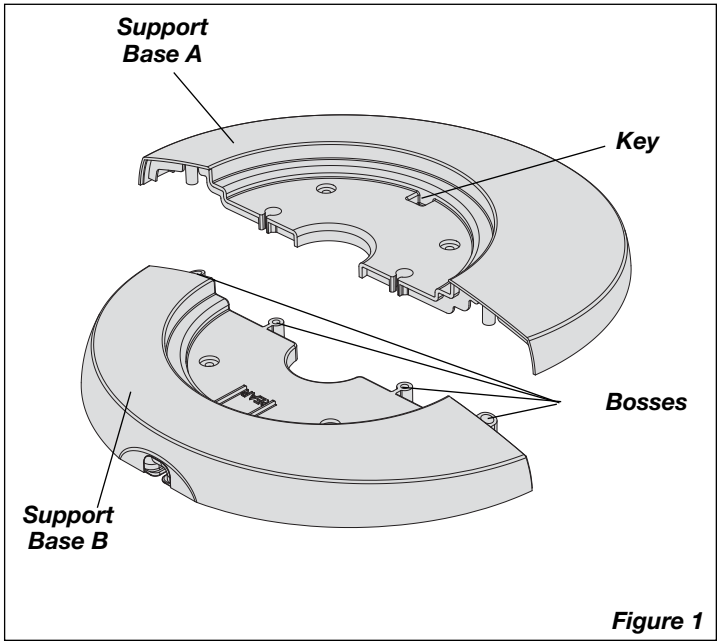
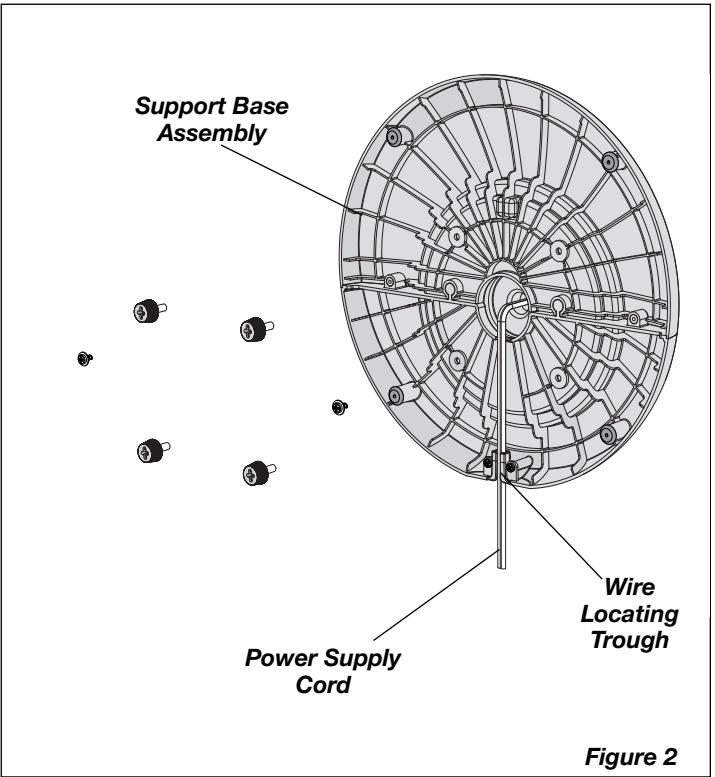

Figure 1
Figure 2
2. Assemble the Support Base Halves by interlocking the Bosses on Support Base A into the Boss Holes on Support Base B. Thread the Power Supply Cord through the large hole in the center of the Support Base Assembly. (Figure 1)
3. Secure (2) #8 X 3/8" Screws into the two outer holes in the bottom of the Base. (Figure 2)
4. Align the Support Base Assembly with the Motor Base, noting that the cord channel on the bottom of the support base assembly should be towards the back of the Fan. Attach the Support Base Assembly to the Motor Base with Thumb Screws. Make certain to align the Key on the Support Base Assembly with the Locating Notch on the Motor Base. (Figure 1) Gently pull any excess slack of the Power Supply Cord and place it in the Wire Locating Trough. (Figure 2)